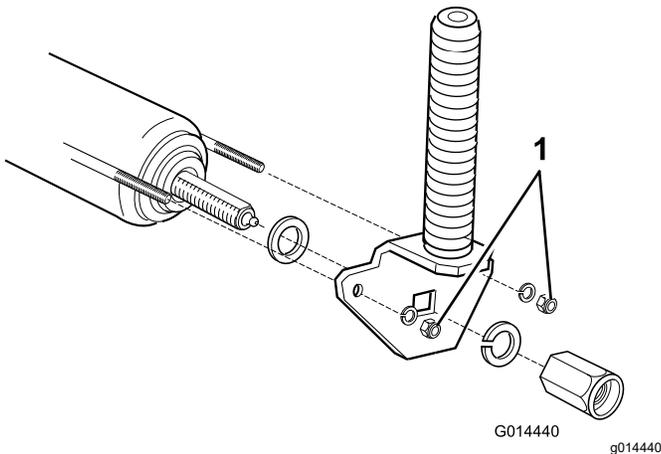

Figure 85
2. Tighten the nuts 4 full turns to correctly tension the wire (Figure 85).